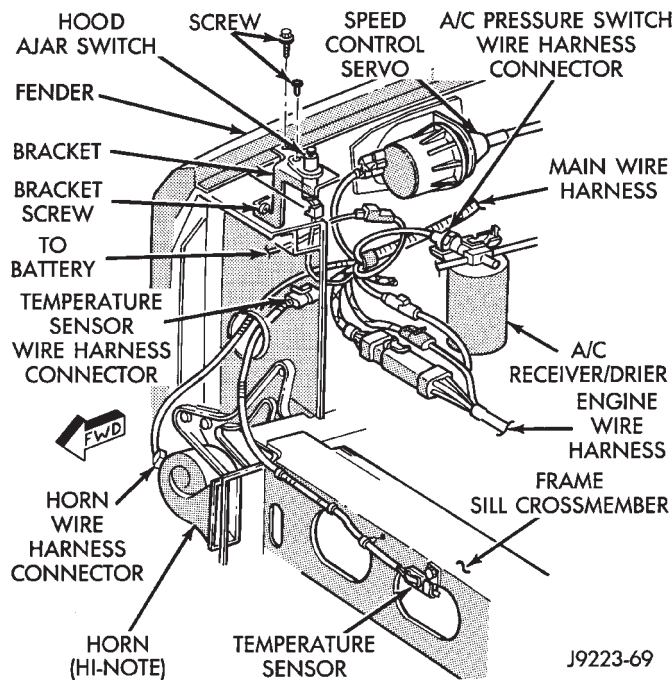

Fig. 40 Hood Ajar Switch, Speed Servo & A/C Receiver/Drier
- remove the hood ajar switch, if equipped, from fender (Figs. 40 and 41);
- remove the A/C Receiver/Drier from the fender inner panel (Fig. 40); and